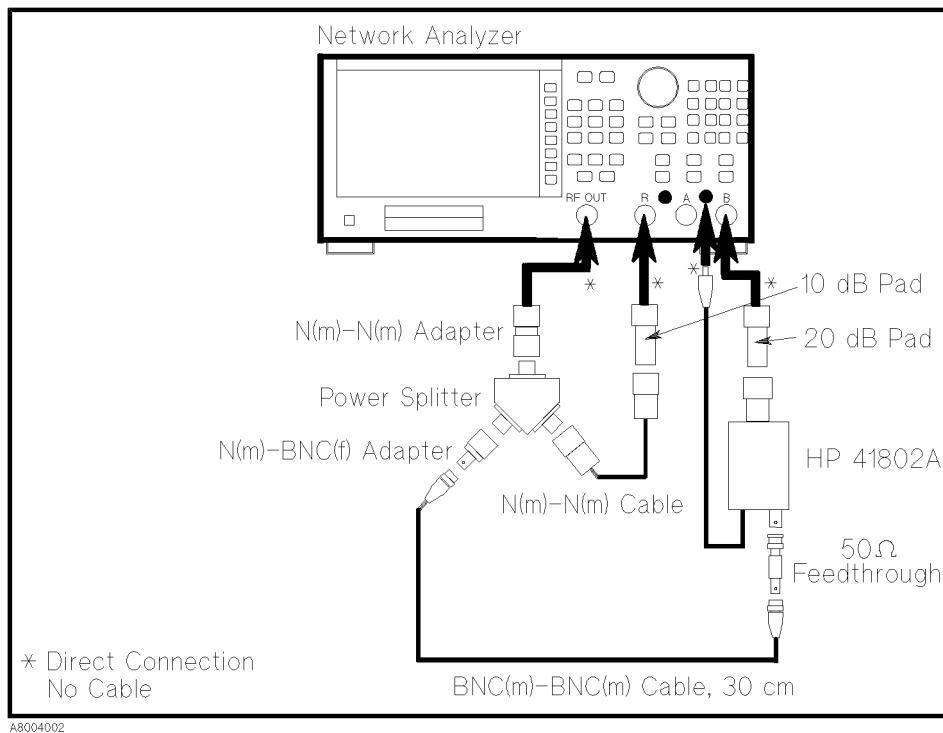

Figure 4-2. Test Setup 2
4. Change the connection as shown in Figure 4-2